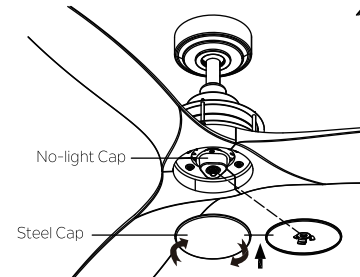

Fig. 20
Step 3. Assemble the steel cap to the no-light cap by twisting in a clockwise direction. (Fig.20)